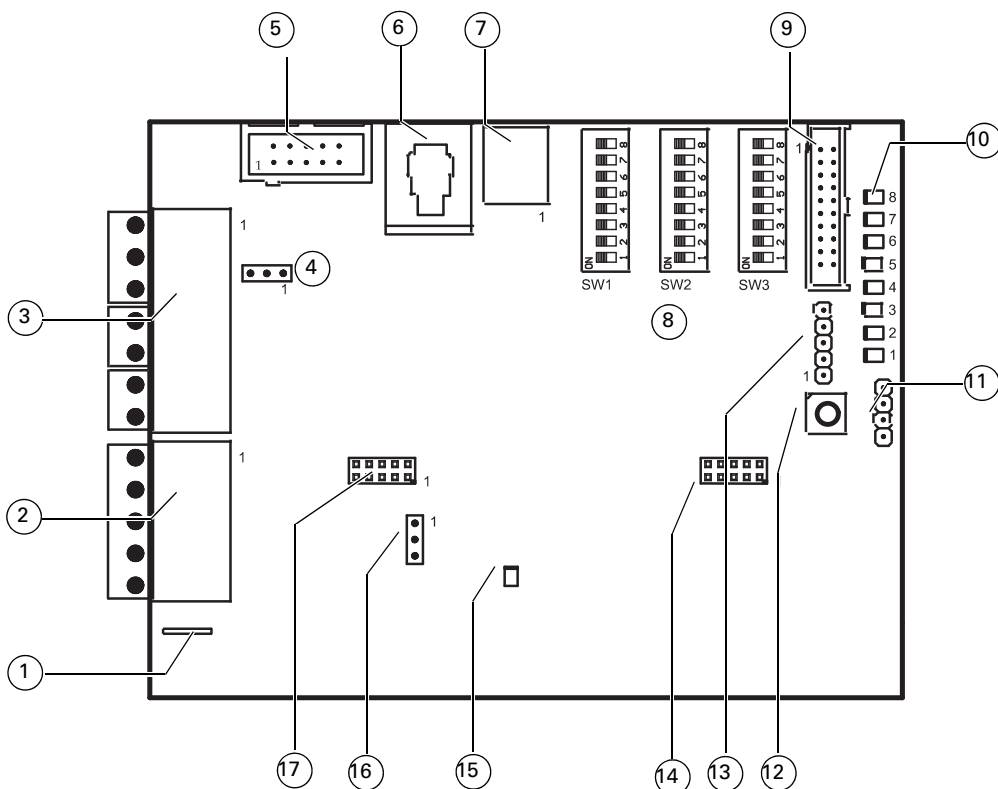

Fig. 4: Switches, Terminals and header
- 4 Set the switches and headers for the correct configuration (refer to Fig. 4 on page 9 and Tables 3, 4, 5, 6, 8 and 11).